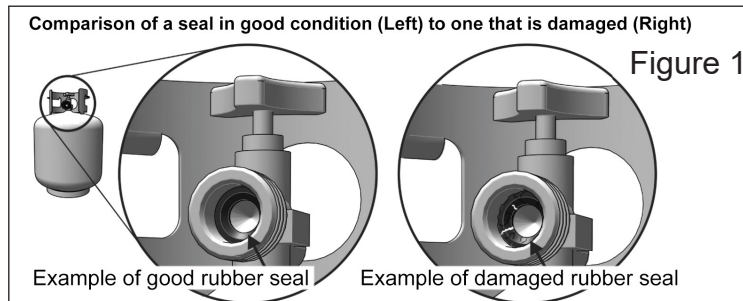

Figure 1
- ⚠ WARNING:** The cylinder face elastomeric face seal element on these devices could, over time, show marked and visible damage or deterioration that might cause a leak even with the connection tightened; a statement that a visual inspection for the seal must be carried out every time a LP gas cylinder is replace or refilled, and a statement that any LP-gas cylinder showing signs of damage or deterioration as those illustrated in Figure 1, including visible cracks and pitting, must be returned unused to the seller.